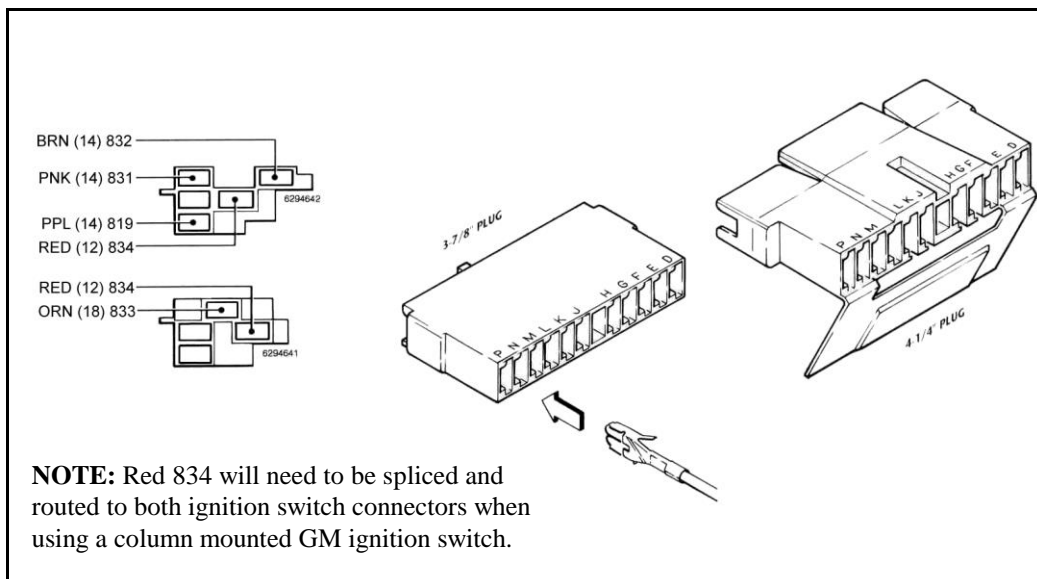

Figure 6.5 GM Ignition and Turn Signal Connectors
- (8) switch panel, connectors and terminals (These will not be included in P/N 50002)
- 2 GM turn signal connectors (See **Figure 6.5**)
- 2 GM ignition switch connectors (See **Figure 6.5**)
6.2.5 GM Ignition and Turn Signal Connectors. See Table 6.1 and Figure 6.5.
- A. There are two different turn signal plugs for GM tilt columns. The difference is in the length of the male plug that is mounted ON THE COLUMN. One plug is 4-1/4" (4.25") long and the other is 3-7/8" (3.875"). This is a mere 3/8" (0.375") difference, so measure the plug carefully. This kit has included female connectors to mate with either size column-mounted plug. See **Figure 6.5** to determine which connector is correct for your vehicle.
The TURN SIGNAL SECTION wires have already been terminated for you. Choose the proper connector and install the contacts according to **Table 6.1** and **Figure 6.5**.
Note: The contacts will only insert into the connectors ONE WAY, as shown in Figure 6.5. Make certain you are inserting the wires into the CORRECT LOCATIONS as the contacts are difficult if not impossible to remove once inserted.